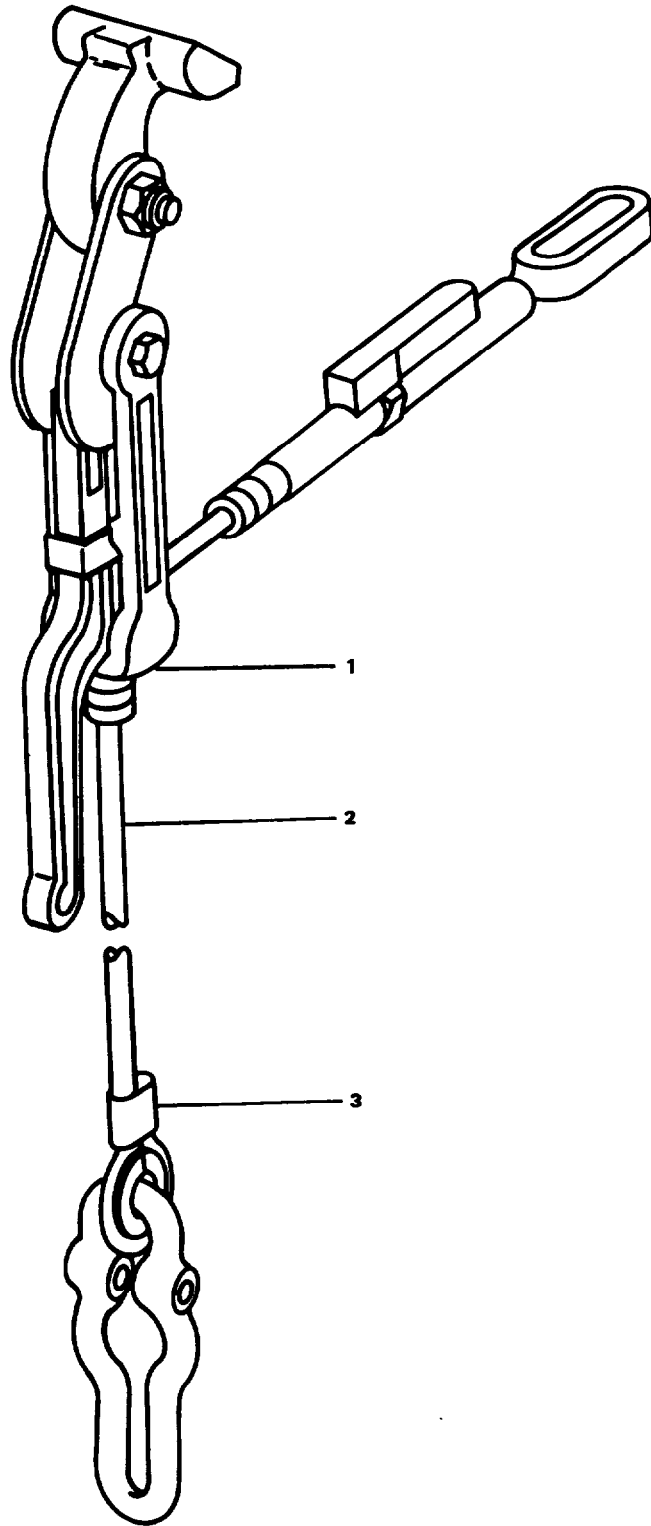

FIGURE 2-184. Lashing Gear.
**2-214. Repair Lashing Gear. (FIGURE 2-184)**